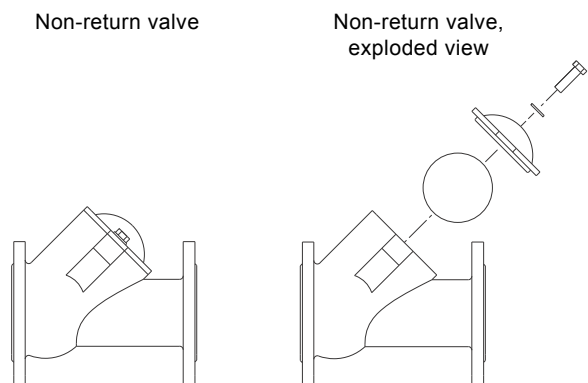

Fig. 37 Non-return valve
3. Loosen and remove the two screws on the non-return valve cover. See fig. 37.